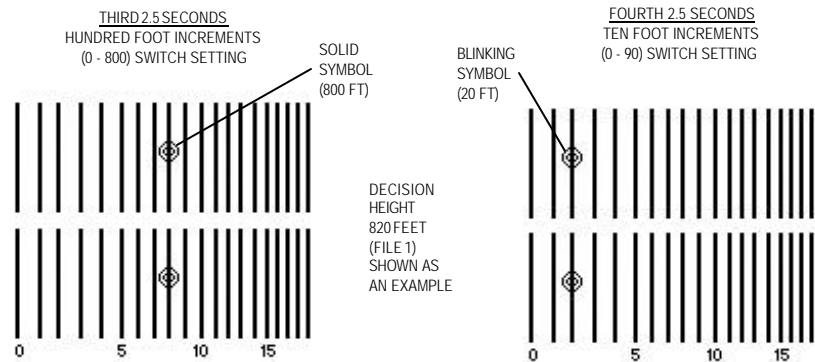

Figure 2-1. Decision Height Verification in Azimuth.
(1) Verification of the new setting will be displayed.
(2) The first 5 seconds will verify the glide slope and then the decision height altitude will be verified. The new decision height setting is verified in the same manner as the glide slope. The hundreds digit, 0-800, will be a steady signal for 2.5 seconds. The tens portion, 0-90, will be represented as a blinking signal lasting 2.5 seconds (see Table 2-2). This will verify that the decision height information has been properly set into the system.
d. To verify the decision height, repeat steps (2) and (3) of **SETTING THE DECISION HEIGHT MARKER**. Figure 2-1 shows an example of decision height verification, you must observe that the symbols are on the range marks which correspond with the numbers of the desired decision height.